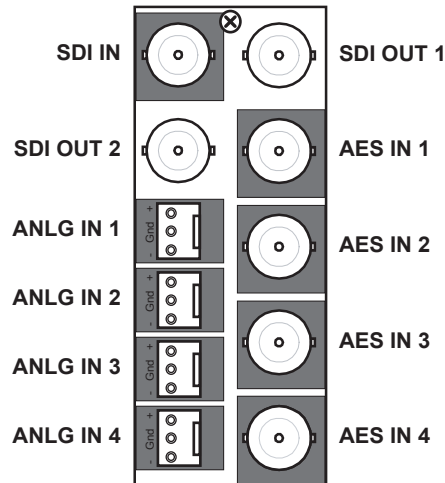

Figure 5.9 Cable Connections for the SFS-8622-AIC — Four Analog Inputs, Four AES Inputs
**Figure 5.9** illustrates the cabling designations for one SDI input, two SDI outputs, four AES-3id unbalanced inputs, and four analog balanced inputs. The **AES I/O Config** is set to **4 in, 0 out**.